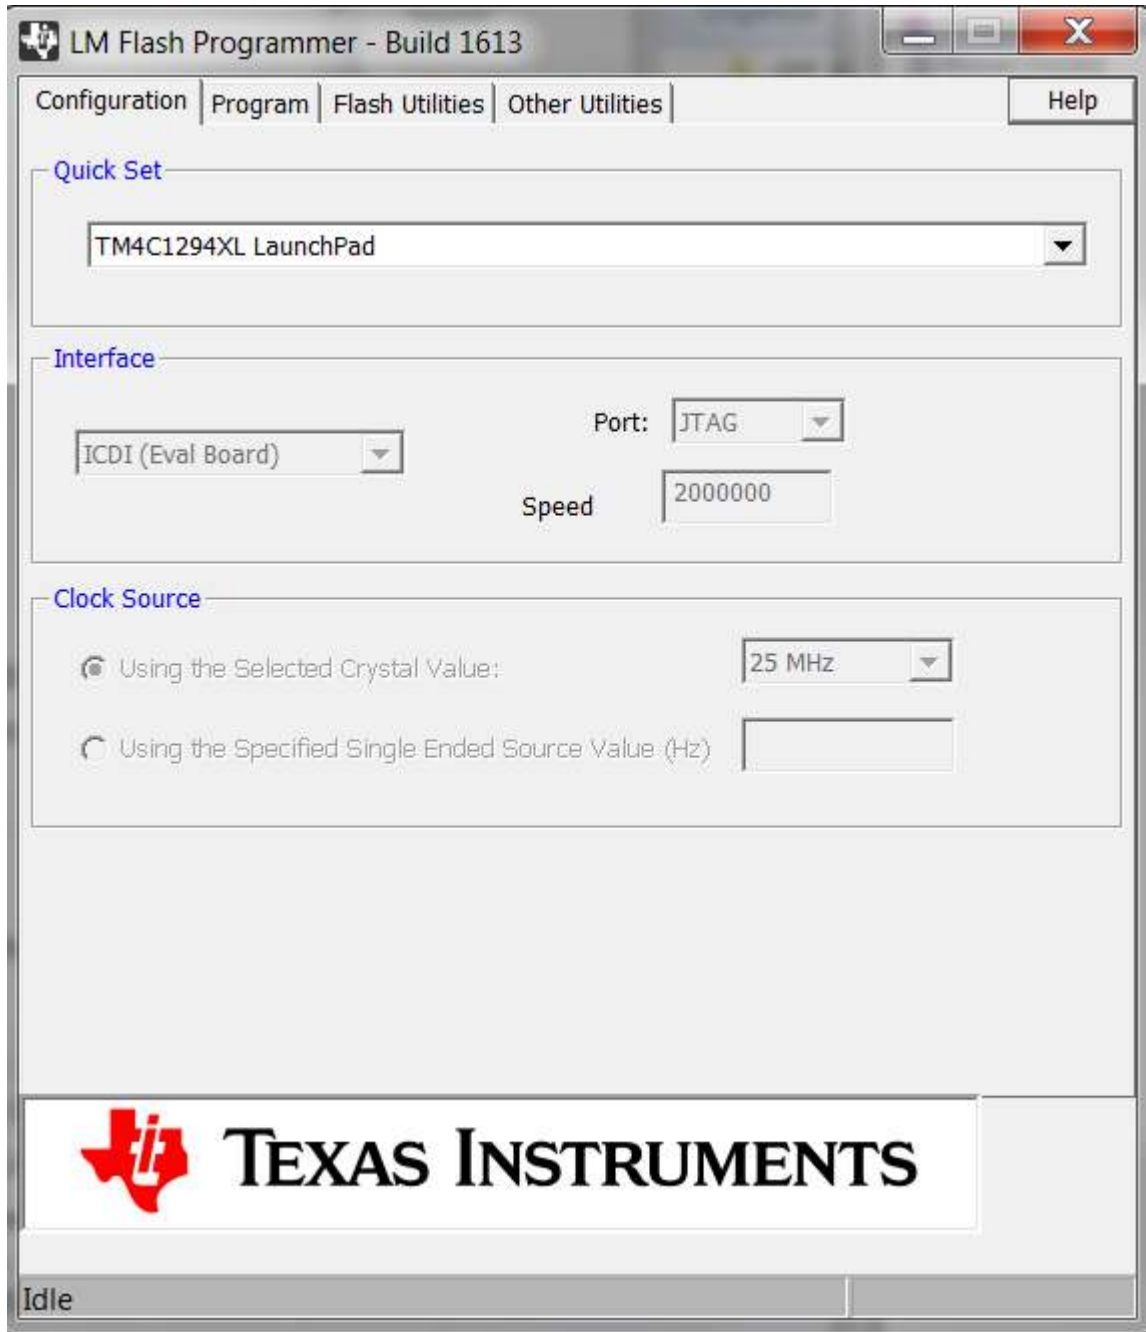

Figure 7. TM4C1294 LaunchPad™ Development Kit Selection in Configuration Tab
3. Launch the LM Flash Programmer. In the Configuration tab select *TM4C1294XL LaunchPad* from the drop-down menu as shown in Figure 7.